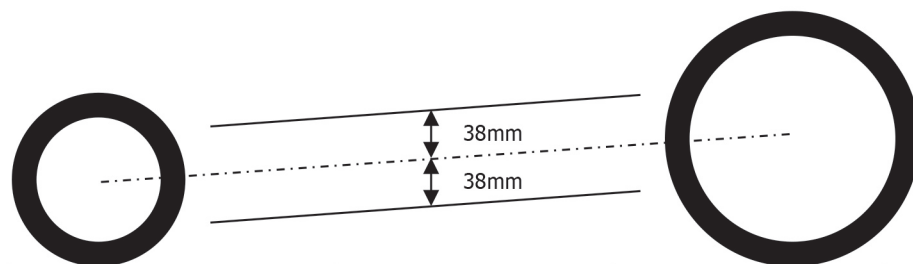

FIG 1: SIDE VIEW
- Guards must be a minimum of 76mm (3 inches) in depth and present a flat face over the 76mm depth (tubing framework must be covered by this flat face) (fig.1 below).